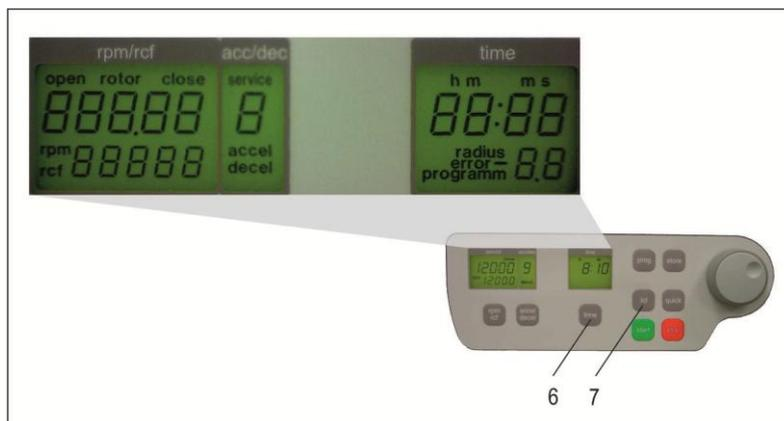

Figure 5
If the centrifuge is still turned off, press the keys, "time" (6) and "lid" (7) simultaneously, turning on the main switch of the centrifuge. Now release both keys. As a result, a display test is administered for approx. 5 seconds. All possible indications will appear at the same time (see Figure 5 Fehler! Verweisquelle konnte nicht gefunden werden.).